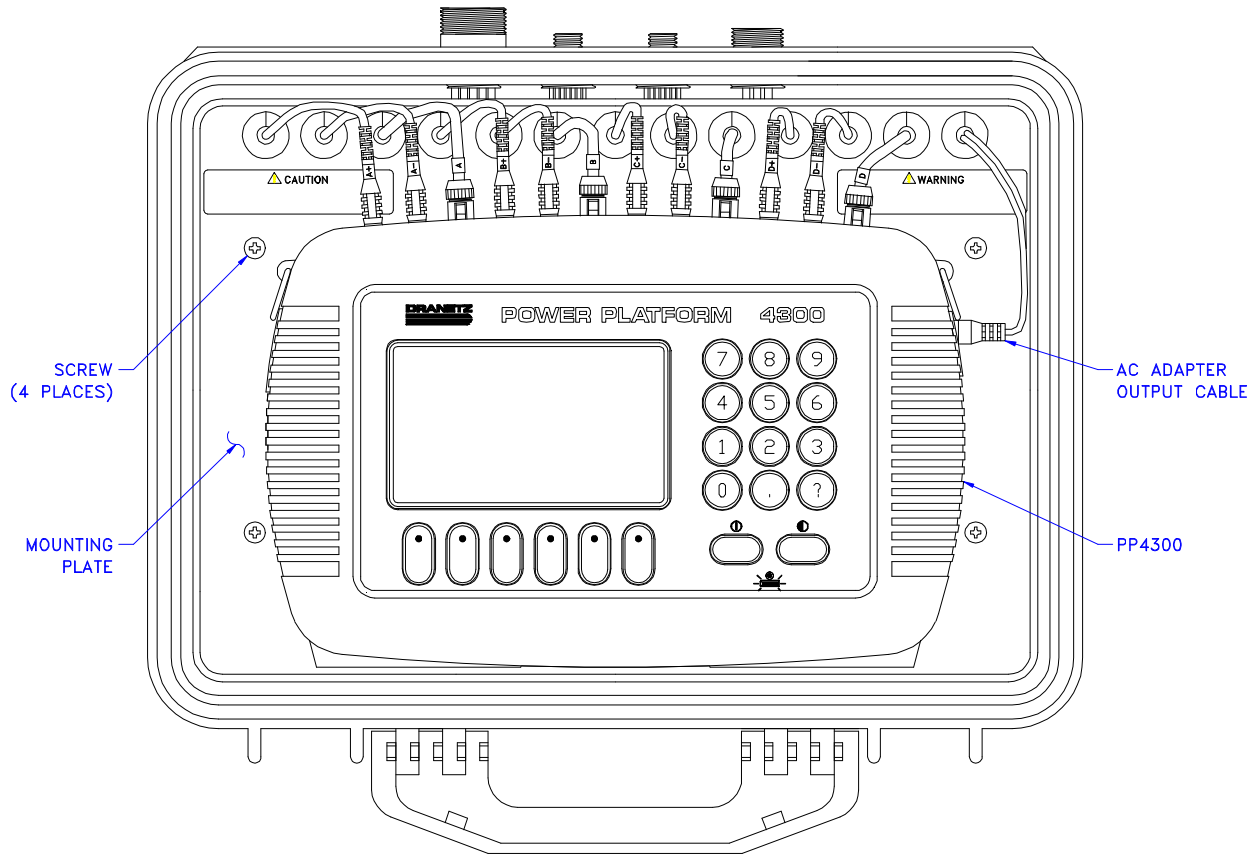

Figure 1. Lockable Portable Case with PP4300 installed (shown without lid).
The AC adapter must be installed inside the case prior to mounting the PP4300. Prepare the case for use as follows. Refer to Figures 1 and 4.
2. Connect the AC adapter output cable to the DC INPUT connector on the right side of the PP4300. See Figure 1.